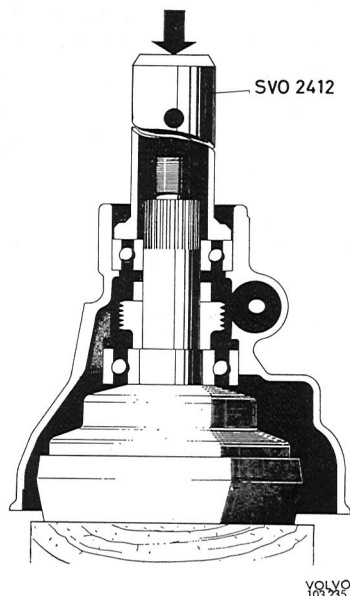

Fig. 4-59. Output shaft installation
3. Place a wooden block under the output shaft as support. Install the speedometer driving gear and spacer. Press on the rear casing with drift 2412, see Fig. 4-59.